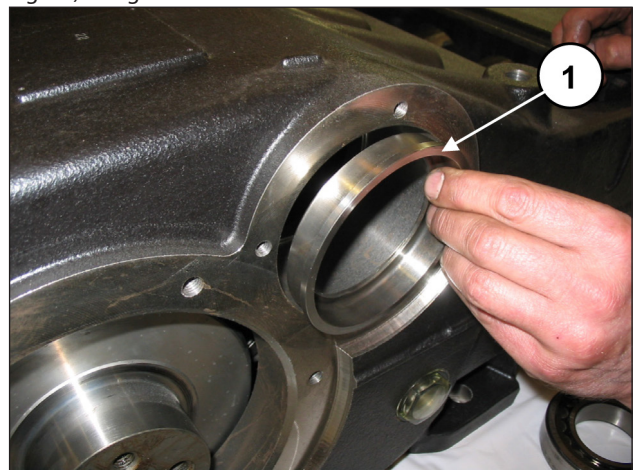
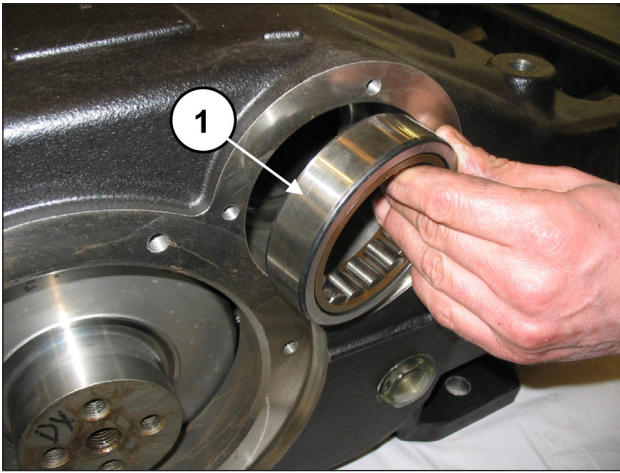

Fig. 53
Fig. 54
From one side of the casing, insert the bearing lubrication bush (pos. ①, Fig. 53) and an external bearing ring (pos. ①, Fig. 54) using a buffer and an extractor hammer.